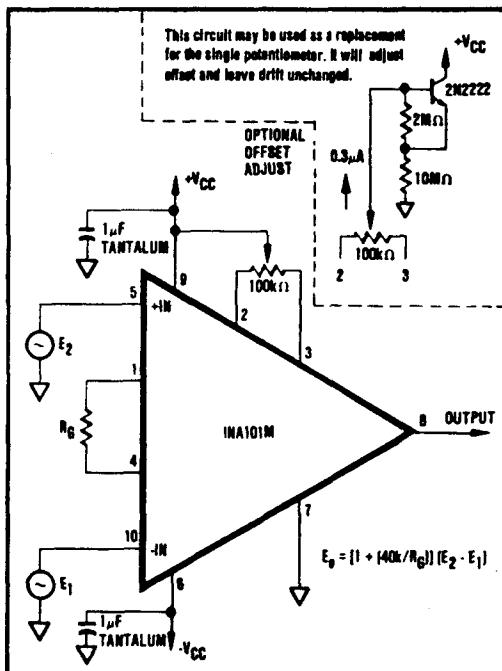
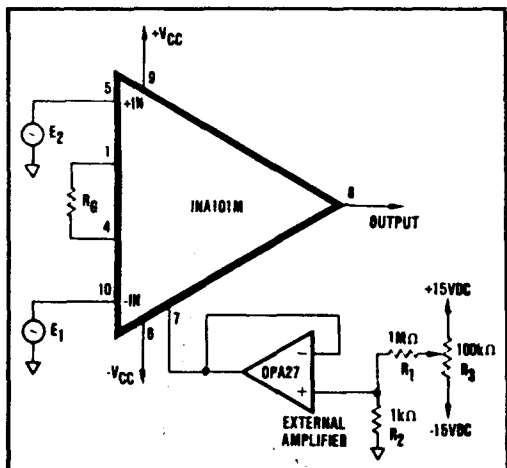

FIGURE 2. Basic Circuit Connection for the INA101 Including Optional Input Offset Null Potentiometer.
FIGURE 3. Optional Output Offset Nulling or Offsetting Using External Amplifier (Low Impedance to Pin 7).
At +25°C and in circuit of Figure 2 unless otherwise noted.
Figure 2 shows the simplest configuration of the INA101. The gain is set by the external resistor, R_G , with a gain equation of $G = 1 + (40K / R_G)$. The reference and TCR of R_G contribute directly to the gain accuracy and drift.
The optional offset null capability is shown in Figure 2. The adjustment affects only the input stage component of the offset voltage. Thus, the null condition will be disturbed when the gain is changed. Also, the input drift will be affected by approximately $0.31\mu\text{V}/^\circ\text{C}$ per $100\mu\text{V}$ of input offset voltage that is trimmed. Therefore, care should be taken when considering use of the control for removal of other sources of offset. Output offsetting can be accomplished in Figure 3 by applying a voltage to Common (pin 7) through a buffer amplifier. This limits the resistance in series with pin 7 to minimize CMR error. Resistance above 0.1Ω will cause the common-mode rejection to fall below 106dB. Be certain to keep this resistance low.
The basic circuit connection for the INA101 is shown in Figure 2. The output voltage is a function of the differential input voltage times the gain.
It is frequently desirable to null the input component of offset (Figure 2) and occasionally that of the output (Figure 3). The quality of the potentiometer will affect the results, therefore, choose one with good temperature and mechanical-resistance stability. The procedure is as follows:
ity is shown in Figure 2. The input stage component of the input stage component of the null condition will be affected. Also, the input drift is only $0.31 \mu\text{V}/^\circ\text{C}$ per $100 \mu\text{V}$ trimmed. Therefore, careful use of the control for offset. Output offsetting can be achieved by applying a voltage to the offset amplifier. This limits the common-mode error. Be certain to keep this
IN the INA101 is shown in Figure 3 as a function of the gain.
3. Adjust to $100\text{k}\Omega$ potentiometer in Figure 2 until the output reads $0\text{V} \pm 1\text{mV}$ or desired setting. Note that the offset will change when the gain is changed. If the output component of offset is to be removed or if it is desired to establish an intentional offset, adjust the $100\text{k}\Omega$ potentiometer in Figure 3 until the output reads $0\text{V} \pm 1\text{mV}$ or desired setting. Note that the offset will not change with gain, but be sure to use a stable external amplifier with good DC characteristics. The range of adjustment is $\pm 15\text{mV}$ as shown. For larger ranges change the ratio of R_1 to R_2 .